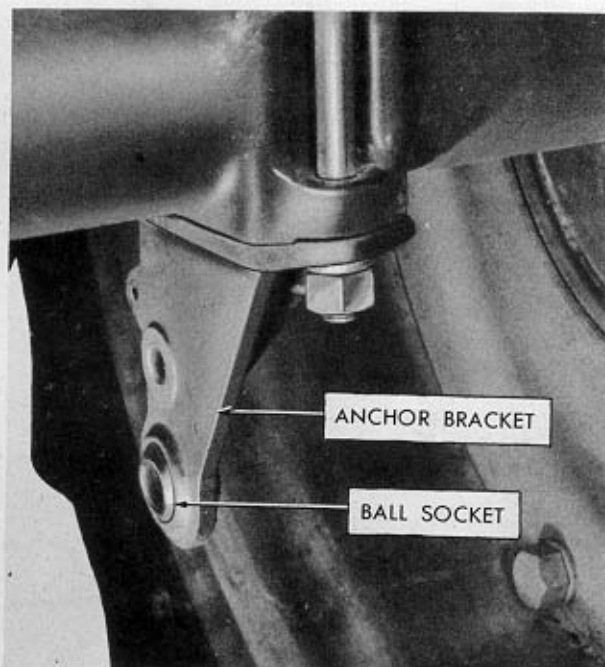

Figure 11
18. Attach the right hand anchor bracket to the tractor rear axle housing with the fender bolts as shown in Figure 11.